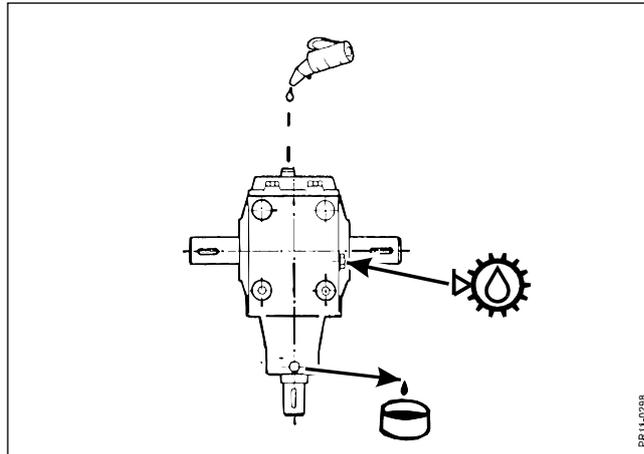

Fig. 4-7
- Fig. 4-7 **Oil content:**  1.5 litres per gear